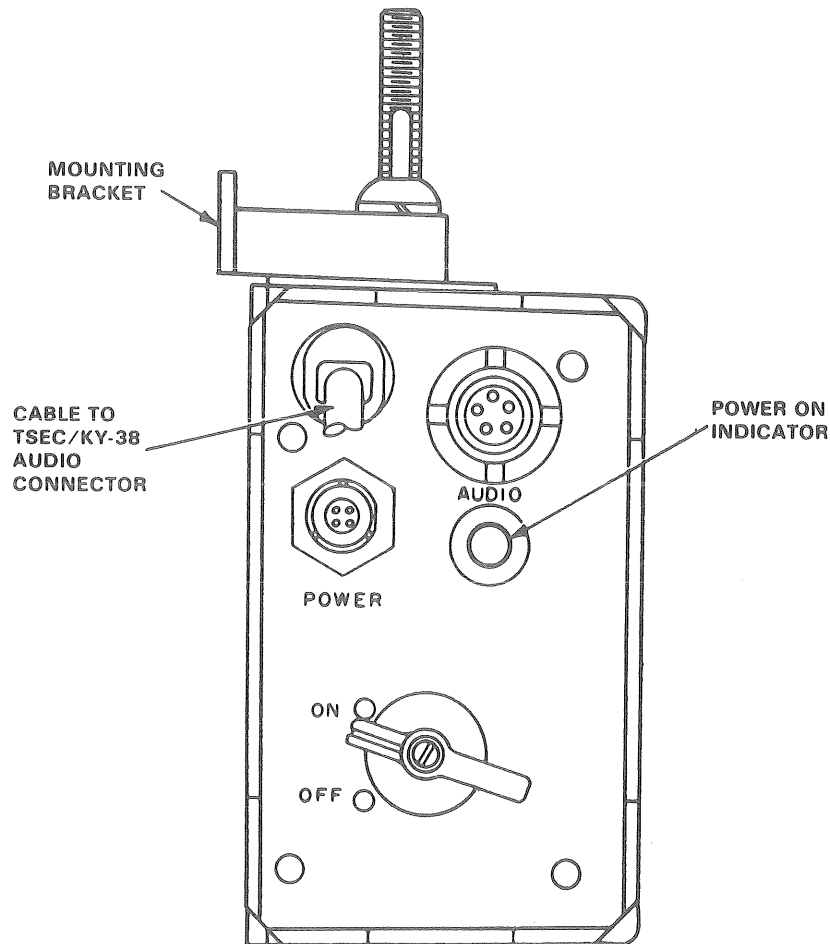

Figure 3. Amplifier, Audio Frequency AM-4979A/GR controls and indicators.
- (1) Set the MT-3823(*)/GRC ON-OFF switch to ON.
- (2) Set the AM-4979A/GR power switch (fig 3) to ON.
- (3) Set the TSEC/KY-38 power switch to CIPHER and the VOLUME control to approximately midrange.
- (4) Set the DELAY switch to IN.